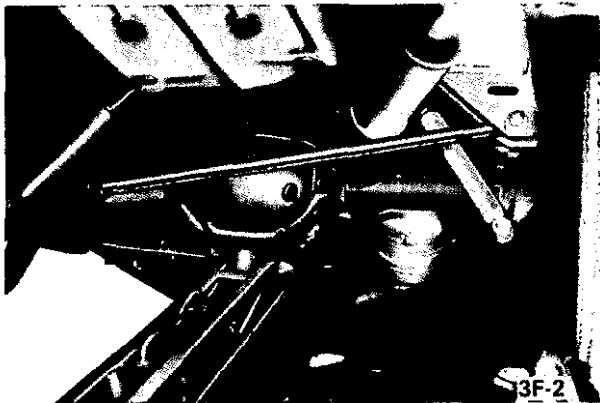

Figure 3F-2 Raising Rear of Car
1. Raise rear of car with floor jack under differential carrier and support with jack stands positioned under side jack brackets. See Figure 3F-2.